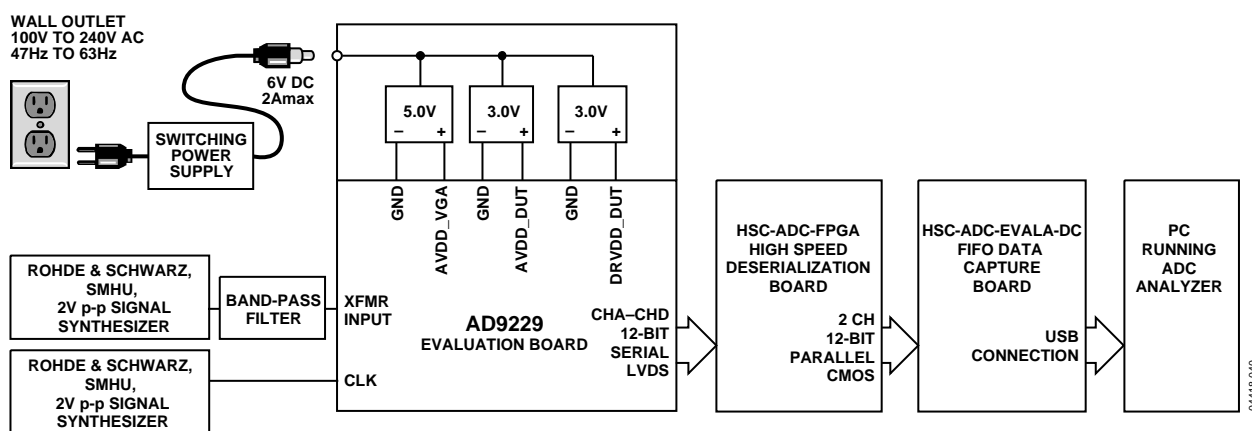

Figure 47. Evaluation Board Connections
The AD9229 evaluation board provides all of the support circuitry required to operate the ADC in its various modes and configurations. The converter can be driven differentially through a transformer (default) or through the AD8332 driver. The ADC can also be driven in a single-ended fashion. Separate power pins are provided to isolate the DUT from the AD8332 drive circuitry. Each input configuration can be selected by proper connection of various jumpers (see Figure 48 to Figure 52). Figure 47 shows the typical bench characterization setup used to evaluate the ac performance of the AD9229. It is critical that the signal sources used for the analog input and clock have very low phase noise (<1 ps rms jitter) to realize the ultimate performance of the converter. Proper filtering of the analog input signal to remove harmonics and lower the integrated or broadband noise at the input is also necessary to achieve the specified noise performance.
See Figure 47 to Figure 57 for complete schematics and layout plots that demonstrate the routing and grounding techniques that should be applied at the system level.
- **D+, D-:** If an alternate data capture method to the setup described in Figure 47 is used, optional receiver terminations, R205 to R210, can be installed next to the high speed backplane connector.